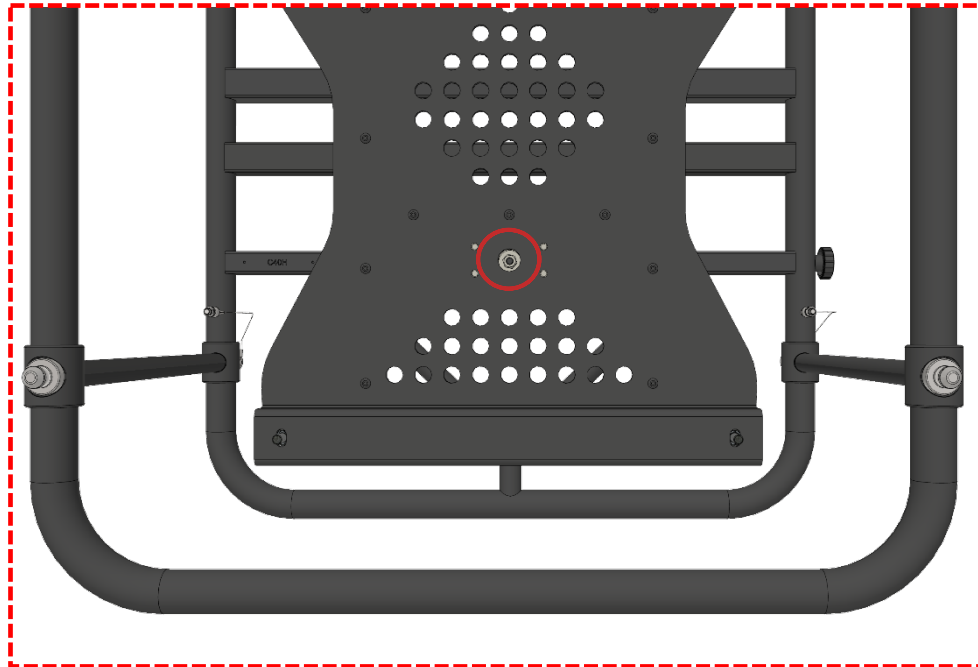
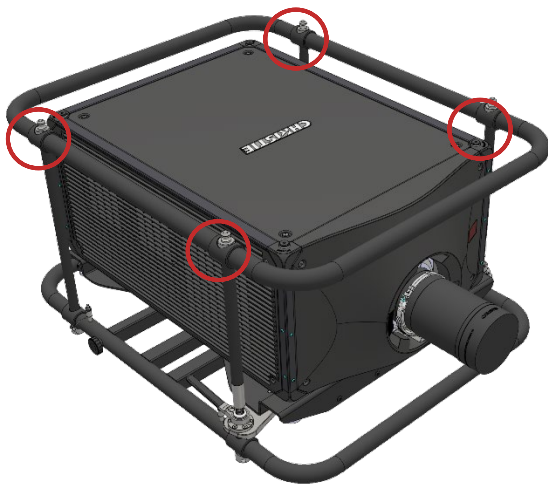

Figure 16 Nut on centre top side which is sealed with red colour wax
Figure 17 Stacking points topside
- On the three screws + nuts presented on the above two pictures (Figure 17 and Figure 16) red color sealing wax was applied to be sure that the nuts will always be on the same position and no one will try to tighten or loose them.
Except for the three nuts described on the previous section (see Figure 17 and Figure 16), please control, with corresponding tool, that all the other screws are properly tightened.